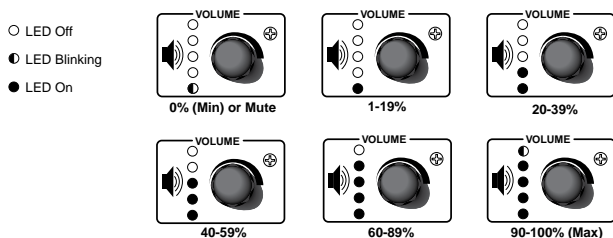

Figure 26. Volume Indicator LEDs
- ⑥ **Volume knob and indicator LEDs** — Turn this knob to adjust the volume on the input that is currently selected. The five LEDs light incrementally, bottom to top, to indicate the current volume level, as shown in figure 26. The top LED is red; the others are green.